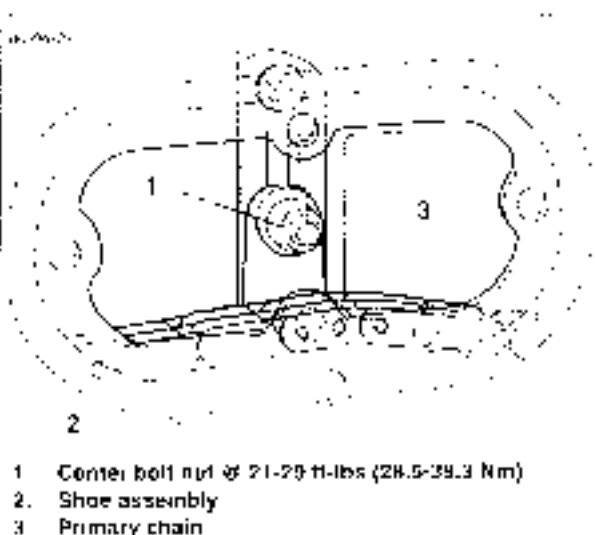

Figure 1-22. Primary Chain Adjustment
5. If freeplay adjustment is required, see Figure 1-22.
- a. Loosen, but do not remove, the center bolt nut (1).
- b. Move the shoe assembly (2) up or down to obtain the specified free play.
- c. Tighten center bolt nut to 21-25 ft-lbs (28.5-33.3 Nm). Replace the primary chain (3) if it is worn to the point where it cannot be properly adjusted.